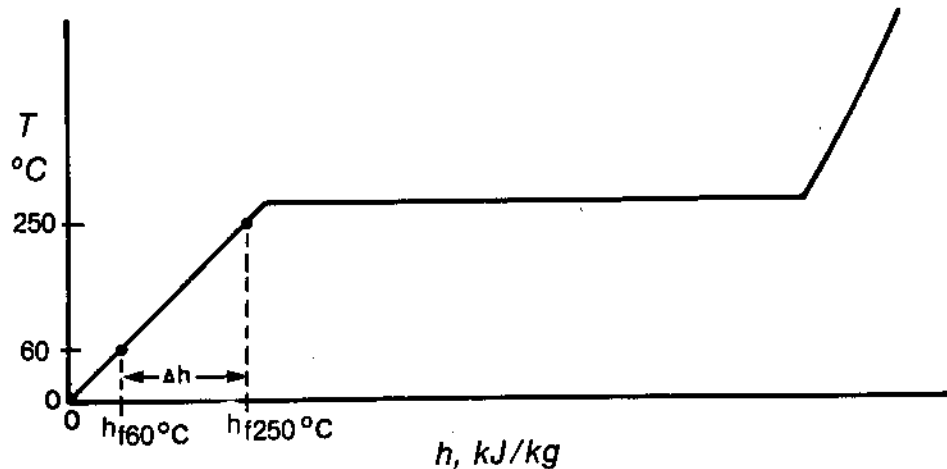

Figure 1.16
- 1.14) This process can be represented as shown in Figure 1.16.